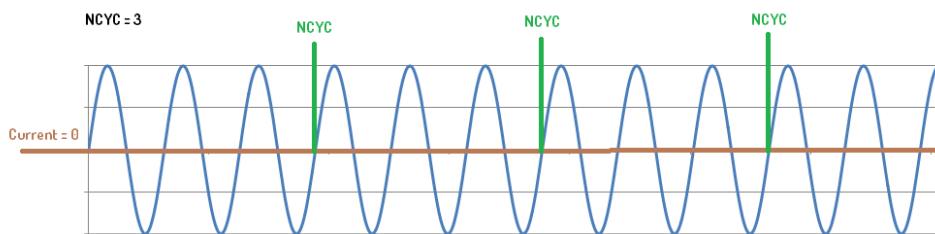

Figure 92. Trigger out event - number of cycles.
- NOC (number of cycles) – An event triggered following a specified number of signal cycles (only applicable to tACS) (Figure 92)